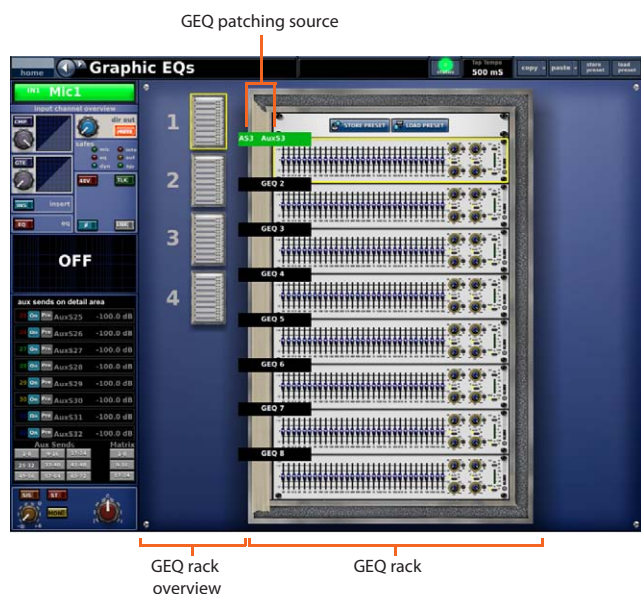

Figure 21: **Graphic EQs** screen (configured for 12 GEQs)
3. In the drop-down list, click the source you want. For example, "Aux Send 3". The new patching assignment will appear in the source name field (as shown below) and in the border on the left of GEQ panel (see Figure 21 "Graphic EQs screen (configured for 12 GEQs)").
The new GEQ patching source assignment will appear in the virtual rack (see Figure 21 "Graphic EQs screen (configured for 12 GEQs)").